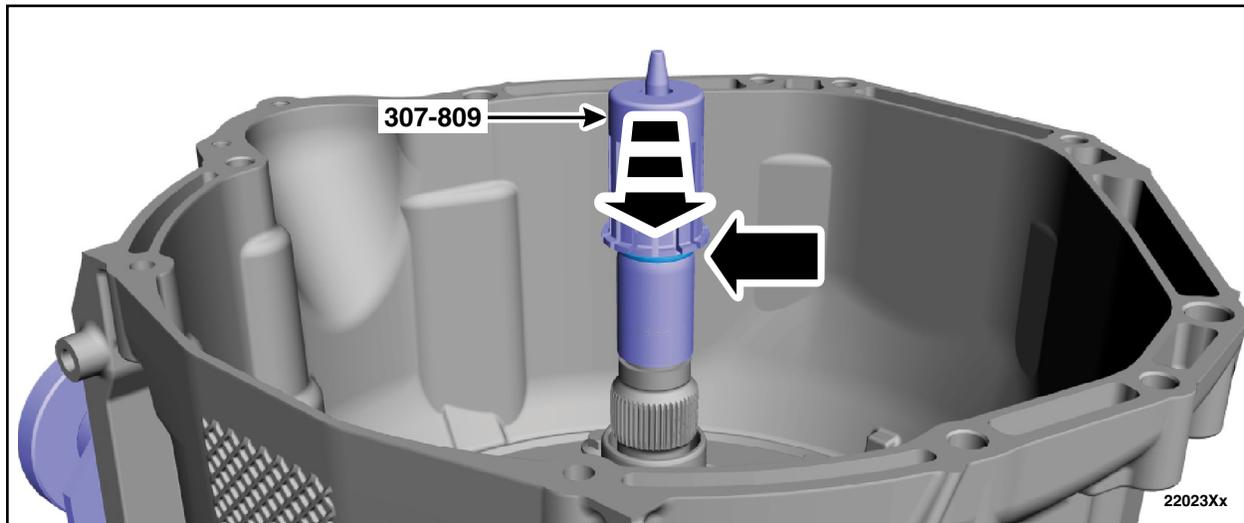

FIGURE 59
68. Using the top half of the Special Service Tool: 307-809 push & sizer, F0 Seal guide, slide the Teflon® seal into the groove. Remove the special tools and repeat the steps for the other 2 Teflon® seals. See Figure 59.